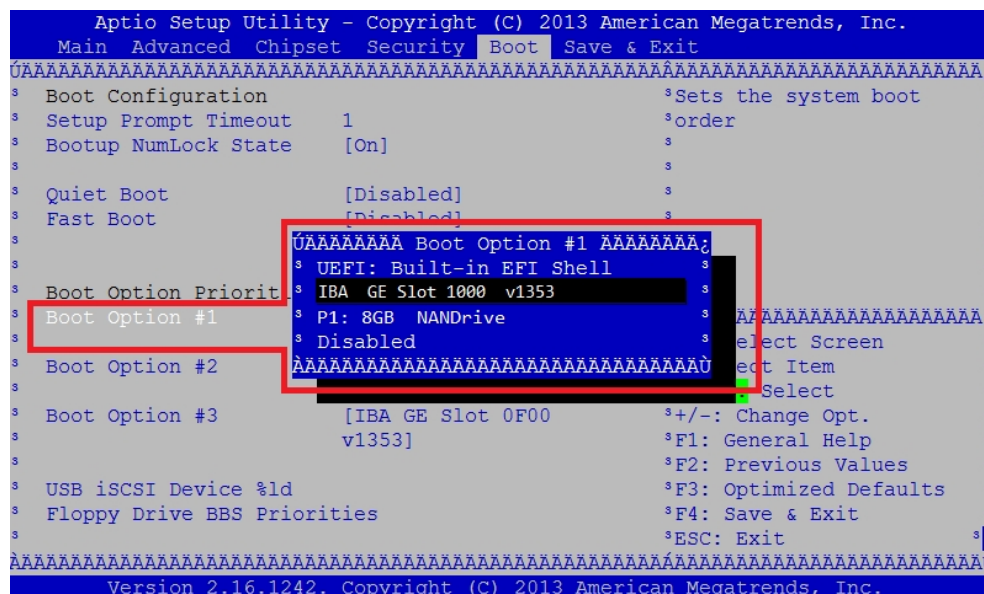

Figure 7-8: Selecting a new Device
1. In the Boot menu, use the up/down arrows to select the Boot Option, and press <Enter> to display the available devices (Figure 7-8 on the facing page).